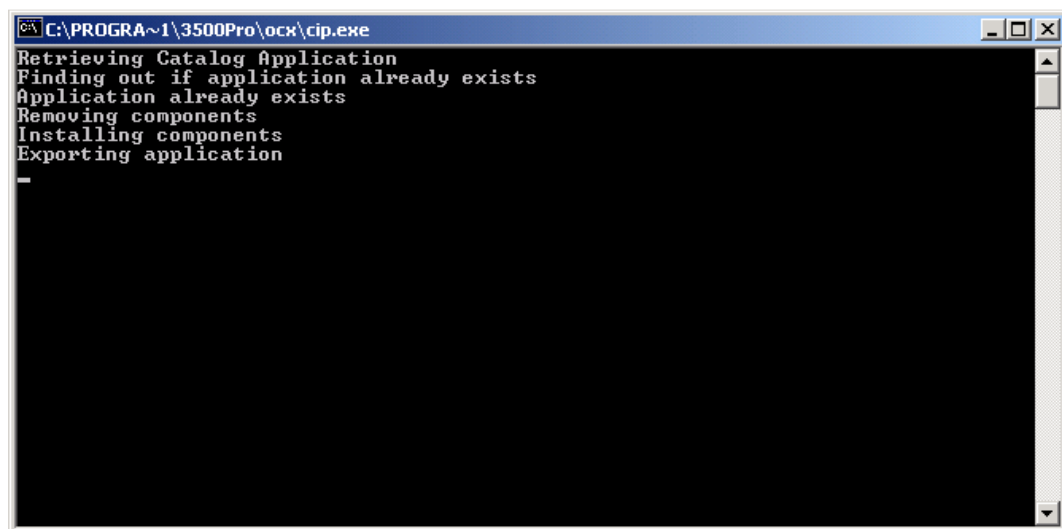

Figure 17: COM+ Registration Installation Progress
6. After the 3500Pro/3500ProLE software has been installed, the 3500Pro COM+ modules are registered with MTS and the runtime database tables are initialized (see Figure 17). You do not have to do anything during this process.